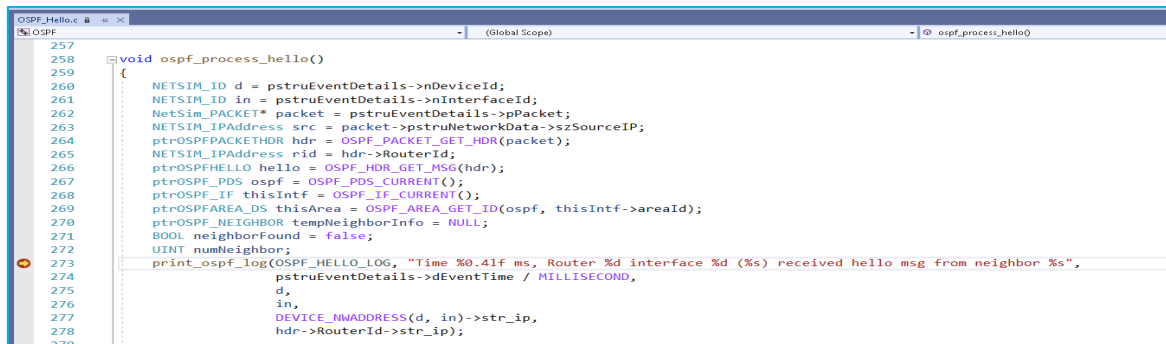

Figure 10-57: Control goes to the project and stops at the break point in the source code.
- Press enter in the command window. Then control goes to the project and stops at the break point in the source code as shown below Figure 10-57.
- Once after pressing enter in command window, check the tail console to watch the ospf_hello.log would look like the following screenshot Figure 10-57.